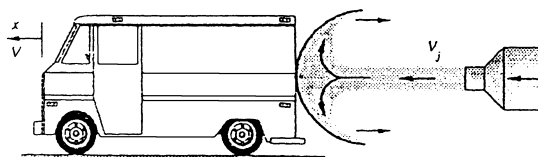

Fig. P3.82
3.82 The model car in Fig. P3.82 weighs 17 N and is to be accelerated from rest by a 1-cm-diameter water jet moving at 75 m/s. Neglecting air drag and wheel friction, estimate the velocity of the car after it has moved forward 1 m.